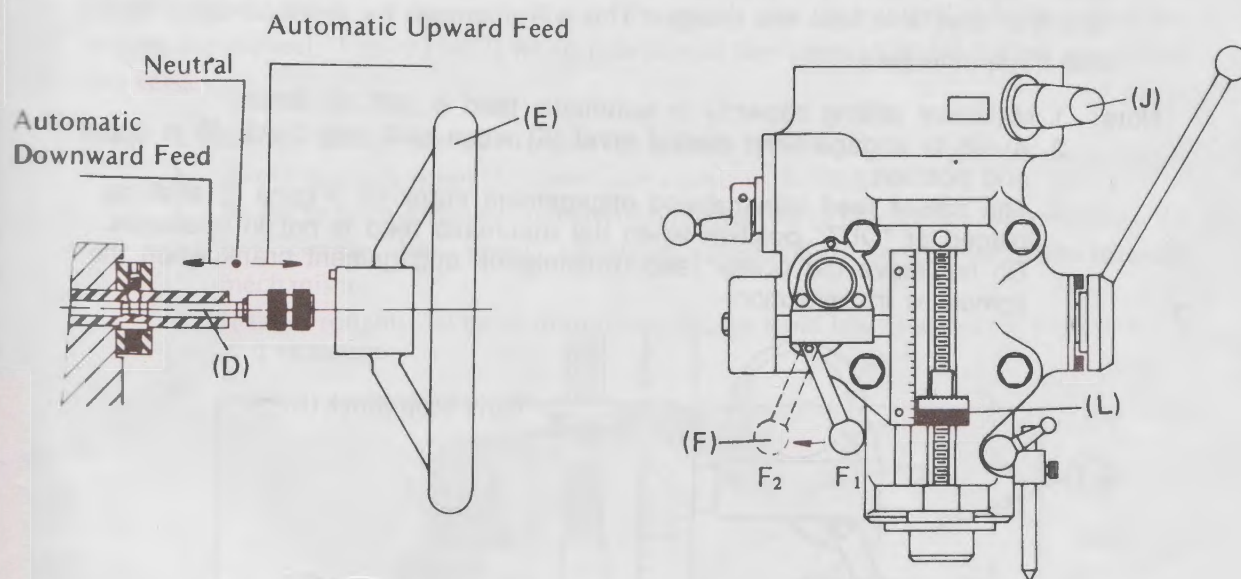

Figure 11
Note: In manual feed, the feed control handle (F) must be placed at position (F1) as shown in(Figure 11.)
To effectuate the manual micromotion feed, the powerfeed transmission engagement crank (J) (Figure 11) shall be placed at "OUT" position, and feed reverse knob (D), at the neutral position.
- e'. When the feed reverse knob (D) pressed inward (Figure 11), it is for downward feed, and vice-versa. The middle position is neutral.